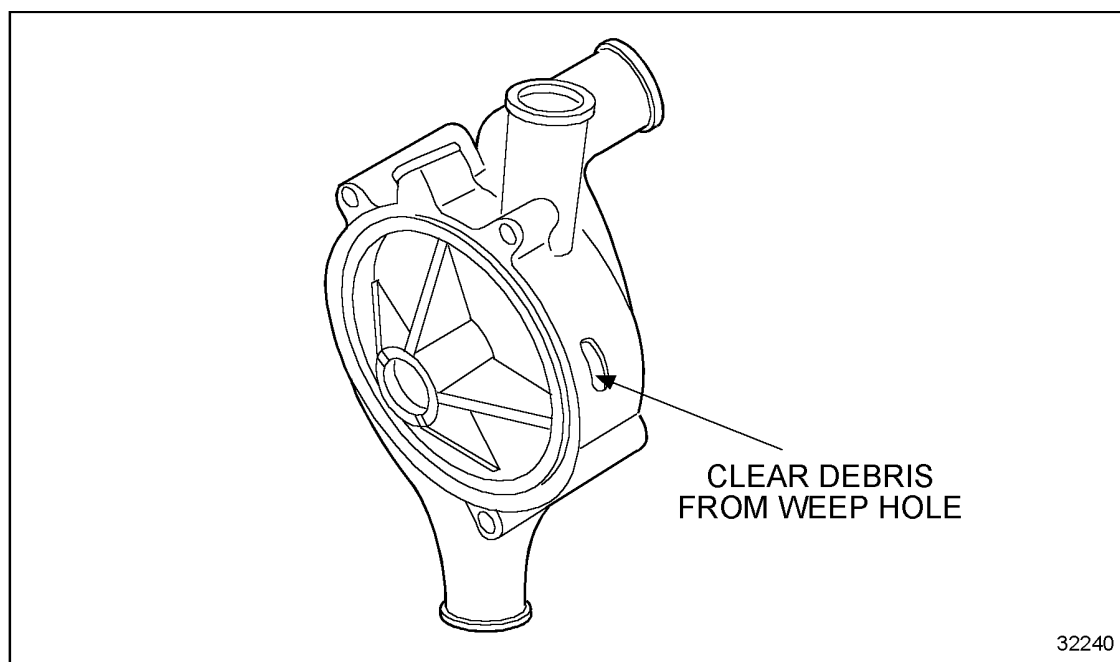

Figure 13-6 Water Pump Weep Hole
1. When accessible, clean any debris or obstruction from the weep hole, being careful not to disturb the seal. This will help address the nature of the leakage. See Figure 13-6.